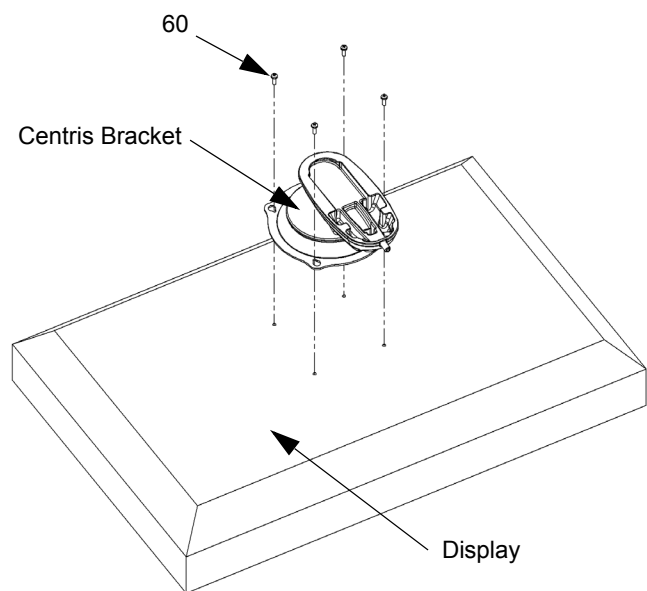

Figure 3: Flush Mount Centris Bracket to Display
1. Install two M4 x 12mm screws (60) into the top mounting holes (not shown) on the display .
2. Align the mounting holes on the Centris bracket with the screws installed on the display. Hang the display on the Centris bracket. (see figure 3)
3. Install two remaining M4 x 12mm screws (60) into the bottom mounting holes on the display.